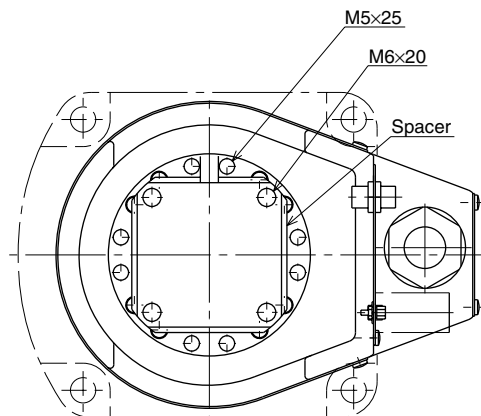

Fig. 5-35
- 7) Remove the bolts (M6×20L, 4 pieces) securing the motor by using the ratchet handle, M6 hexagonal socket, socket adapter and extension bar. (See Fig. 5-35.)